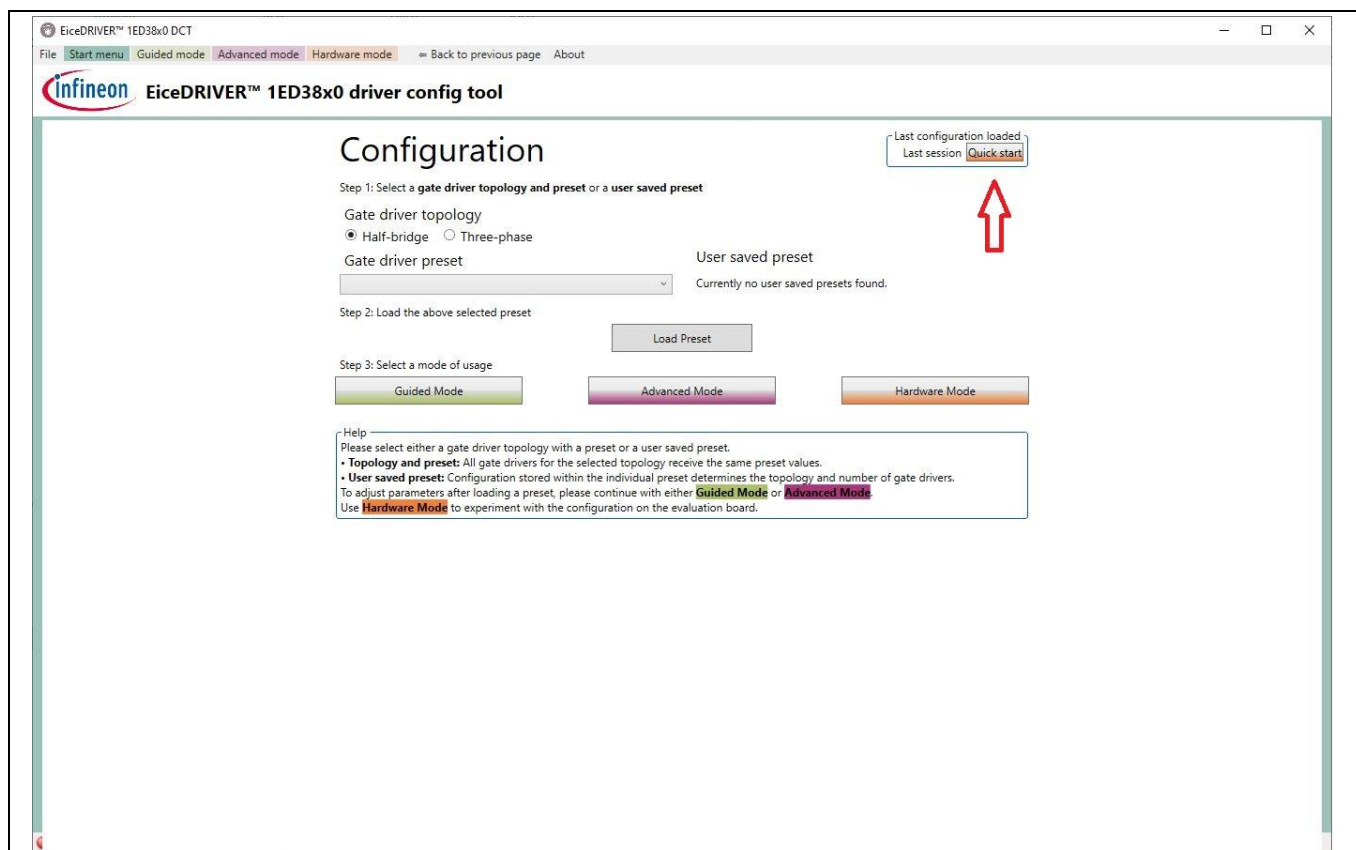

Figure 7 Landing page after starting the GUI 1ED38x0_DCT.exe
7. Press the “Quick-Start” button (Comes up if evereverything works correct – see Figure 7)